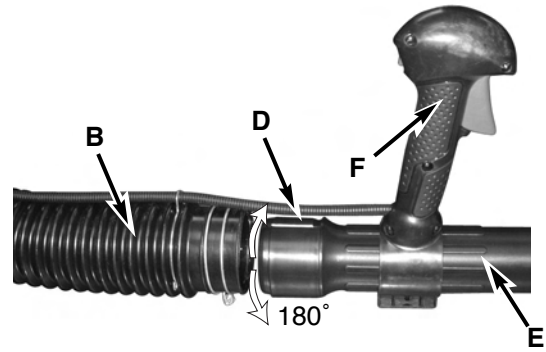
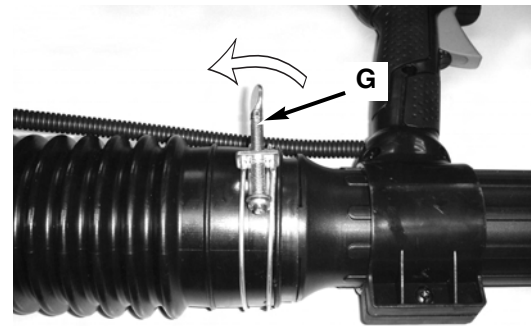

Fig. 3
Fig. 4
2. Turn the rotary ring mark(D) align the throttle handle (F). Then insert the operating tube(E) into the flexible tube (B) (Fig. 3) with a hose clamp (G)(Fig. 4) and tighten securely.